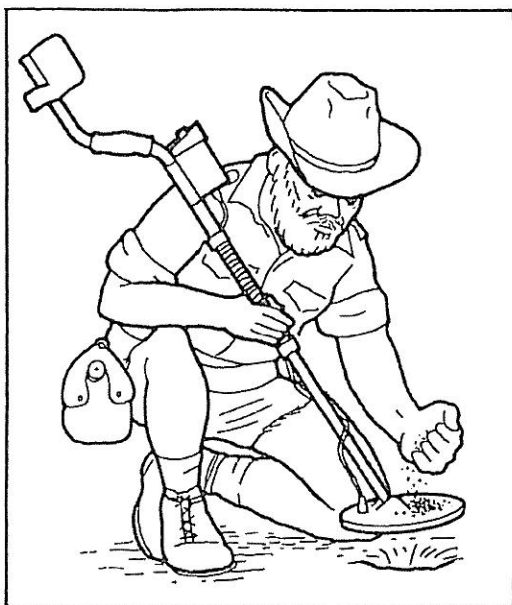

Fig. 7 Target Recovery
3. Grab a handful of dirt with your other hand and slowly let it spill onto the top of the search coil (See Fig. 7).